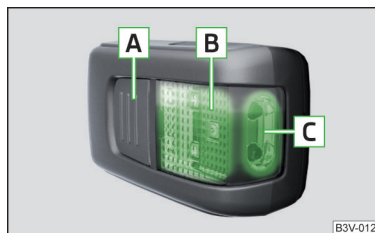

Fig. 109
Description of the light » Fig. 109
- To **switch on** the removed light, press button **A**» Fig. 109. Pressing the light again will **switched it off**.
If the light is not switched off and is correctly inserted in the mount, the LED diodes in the front part of the light **C**» Fig. 109 are automatically switched off.